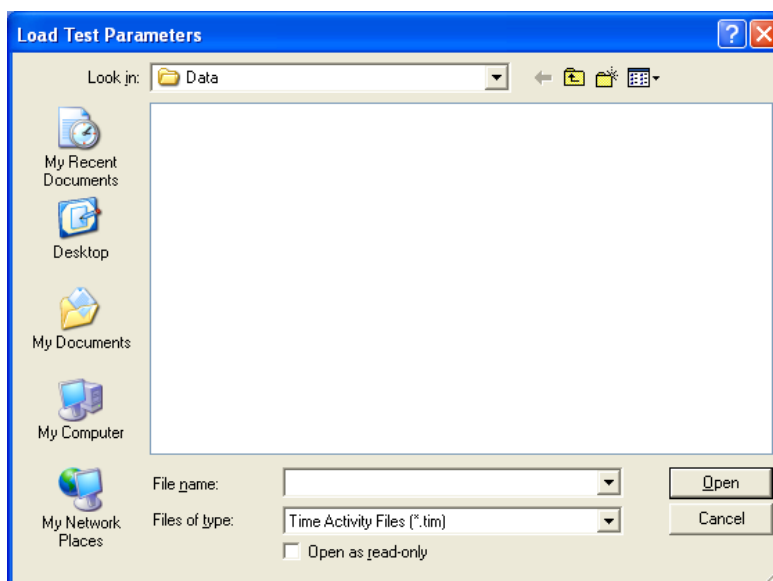

Figure 12-3
- a. To input parameters from a previously saved .tim file, click the **Load from File** button or press *Alt+L*. The screen appears as shown in Figure 12-3. Click on the file name to open it. Parameters are automatically entered into the appropriate boxes.